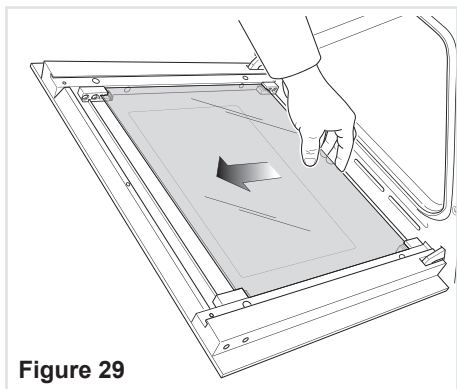

Figure 29
- Gently unlock the middle pane of glass from the bottom clamps by moving it as in fig. 29.